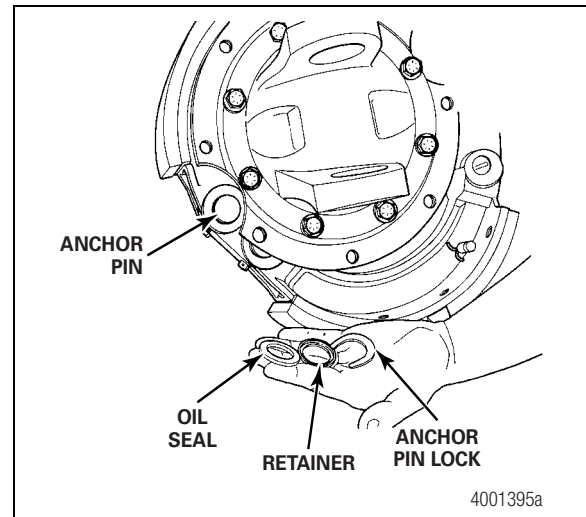

Figure 5.21
7. Install the oil seal and the oil seal retainers onto the anchor pins. Install the snap ring. Figure 5.21.